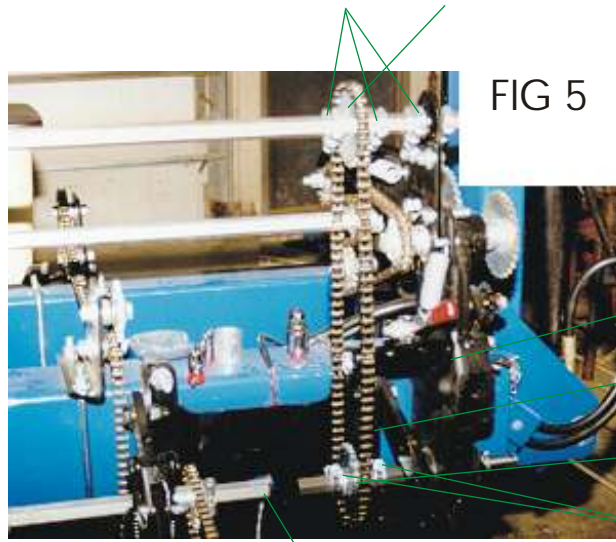

FIG 5
- (A) REMOVE THIS COUPLER SET ASIDE FOR LATER
- (B) REMOVE THIS SPROCKET AND STUB SHAFT
- 2 SAW ABOUT 3-4 INCHES FROM SEED SHAFT (*FIG 5-A*)
- BOLT A BEARING HANGER TO THE EXISTING HOLES IN THE ROW UNIT BRACKET TO SUPPORT THE STUB SHAFT (*FIG 5-C*)
SLIDE THE SHORT SHAFT THRU THE TRANSMISSION BEARING HANGER AS SHOWN IN FIG 5. AFTER SLIDING THE SHAFT THRU ABOUT 5 OR 6 INCHES INSTALL 2 CLAMPS 1- 24 TOOTH SPROCKET AND 1 MORE CLAMP IN THAT ORDER. NOW SLIDE THE SHAFT SO IT IS JUST THRU THE WHEEL MODULE BEARING BRACKET (NOT SHOWN IN FIG 5)
INSTALL THE CHAIN TIGHTNER WITH THE LONG BOLT AND STANDOFF THRU THE EXISTING HOLE IN THE TRANSMISSION FRAME (FIG 5-B)